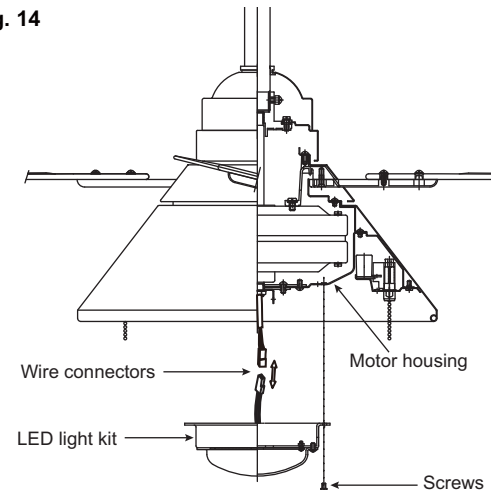

Fig. 15
Attach a blade to a blade bracket using the screws and rubber washers provided. (Fig. 15)
Step 1. Loosen the three mounting screws on the bottom of fan motor housing. (Fig.15)
Step 2. While holding the LED light kit under the fan motor, make the wire connections: (Fig. 15)
Step 3. Tuck the connections neatly into the light kit. Place the key holes on the LED light kit over the 2 screws previously loosened from the fan motor housing, turn the LED light kit until it locks in place at the narrow section of the key holes. Secure by tightening all three screws. (Fig.15)